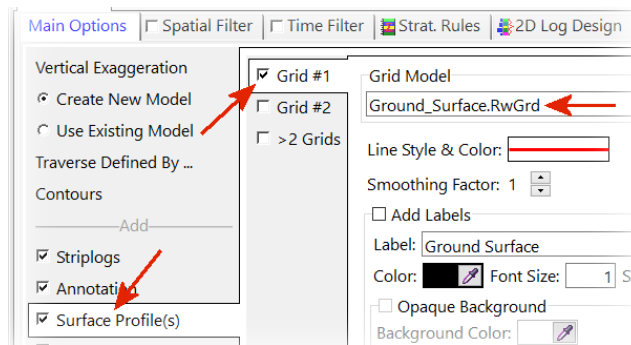

Figure 81
- Enable the *Surface Profile(s)* option (Figure 81), activate *Grid #1*, and set the *Grid Model* name to “Ground_Surface.RwGrd”. This is the surface model that was created within Exercise 3.2.